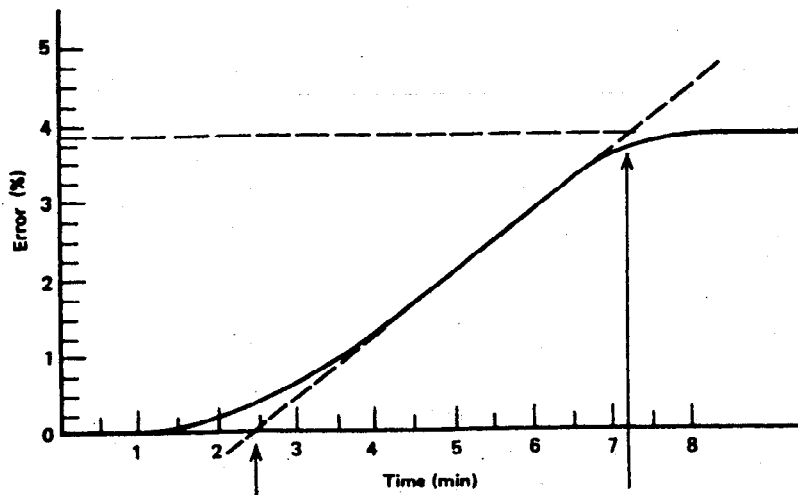

Fig.1
5. A transient disturbance test is run on a process loop. The results of a 9% controlling variable change give a process-reaction graph as shown in Fig 1.